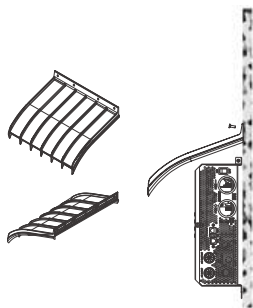

Figure 14 Drip shields
3. Fasten the screws through the holes in the drip shield into the wall. See Figure 14.